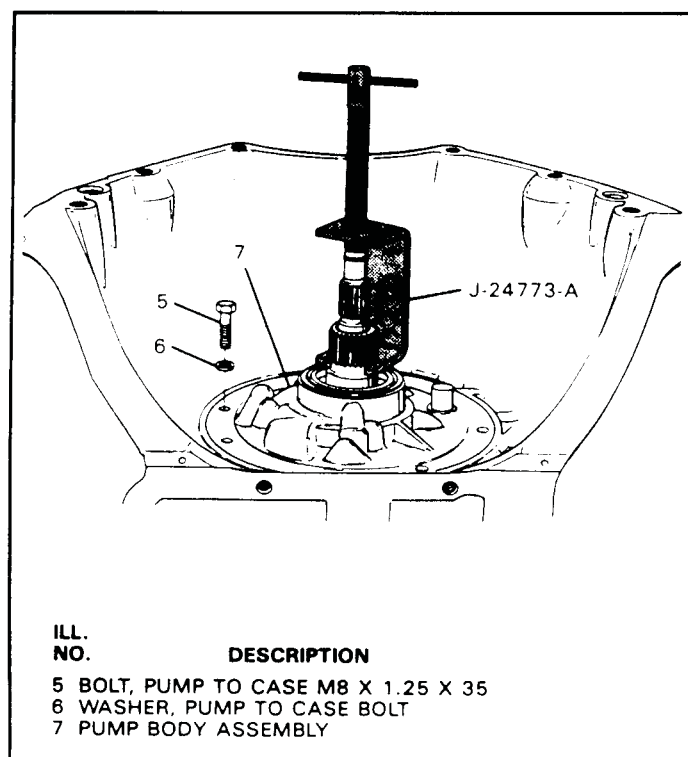

Figure 45
1. Remove all remaining oil pump bolts and washers (See Figure 45).
2. Install oil pump remover J-24773-A, as shown in Figure 45.
3. Remove the oil pump by turning "T" handle on the pump removing tool (See Figure 45).